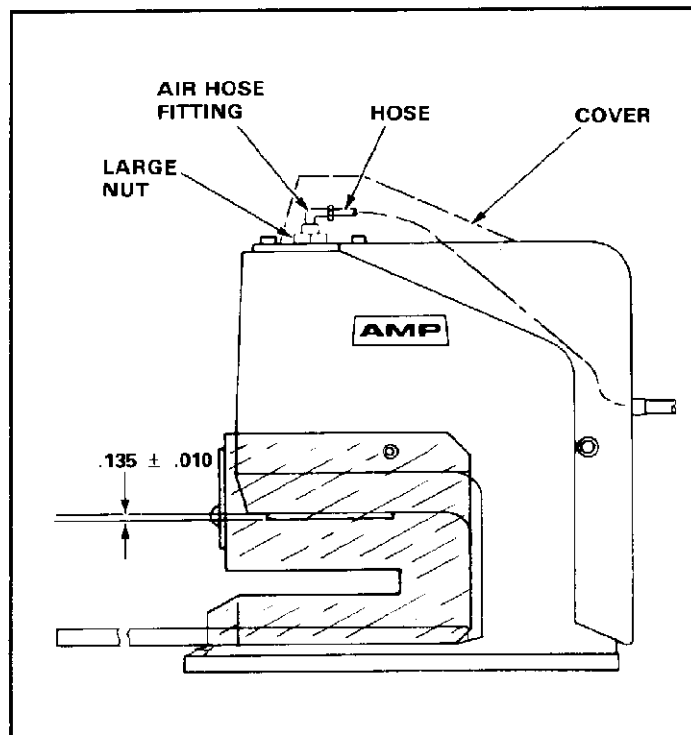

Fig. 3
6. Turn inside ram clockwise until the dimension from bottom of frame surface to the top of the upper tooling surface is $.135 \pm .010$ in. See Figure 3.